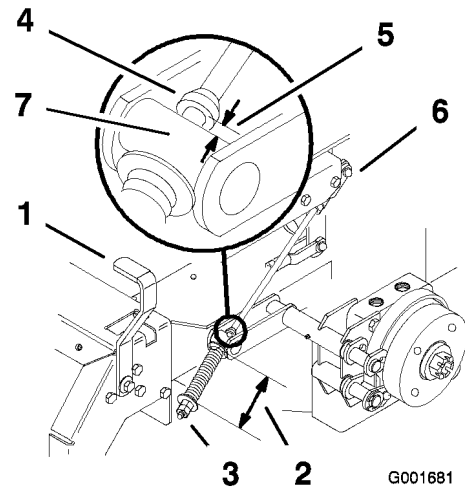

Figure 44
2. Measure the length of the spring; the measurement should be 2-3/4 inch (74 mm) between the washers (Figure 44).
- A. Loosen the jam nut below the spring and tighten the nut directly below the yoke (Figure 44).
6. Measure the distance between the trunnion roller and the collar on the brake rod. The measurement should be 3/16 to 1/4 inch (5 to 7 mm) (Figure 44).
- B. Turn the bottom adjusting nuts until the correct measurement is obtained (Figure 44).